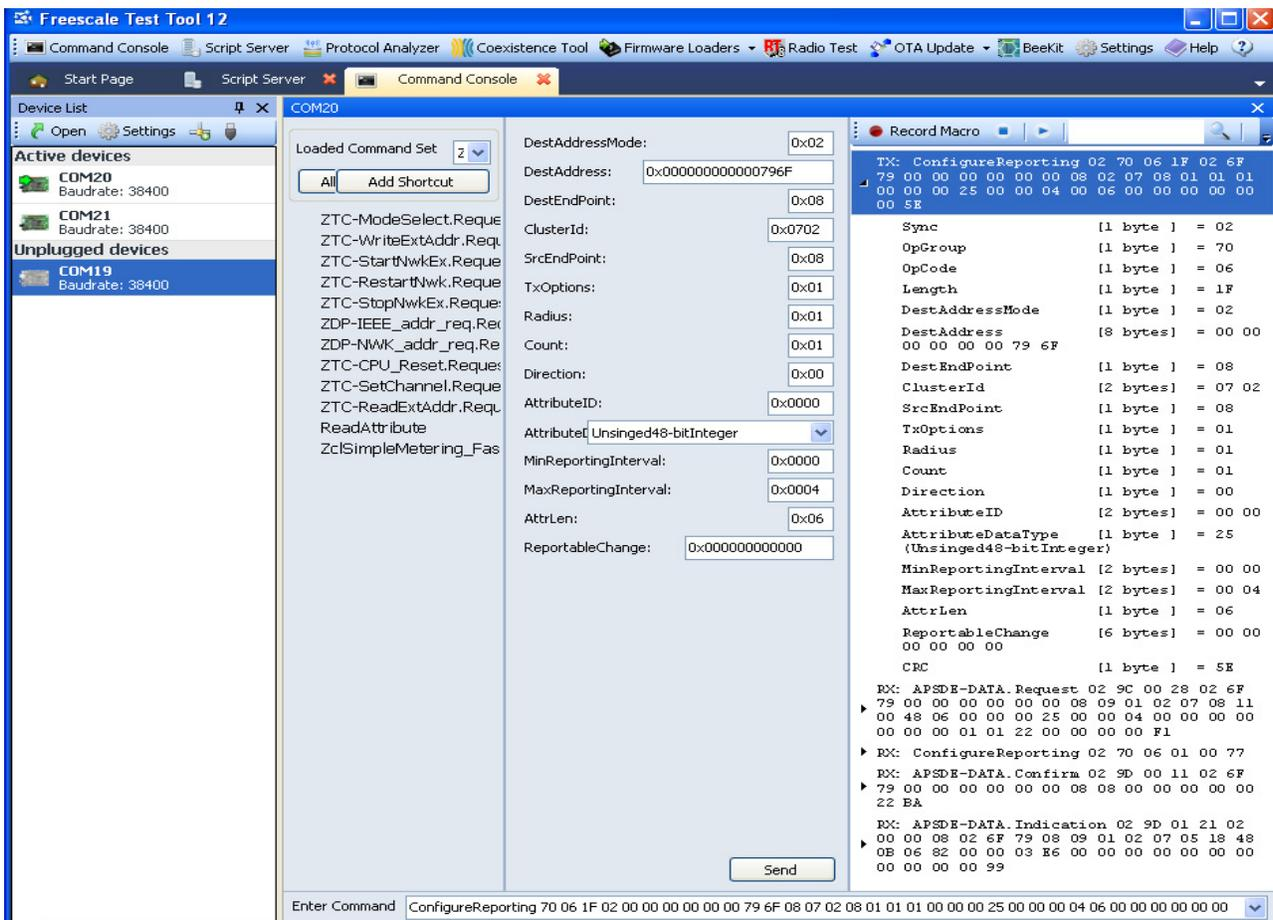

Figure 6-10. ConfigureReporting Command Configuration
2. Set the parameters in the Request as follows (also shown in Figure 6-10):